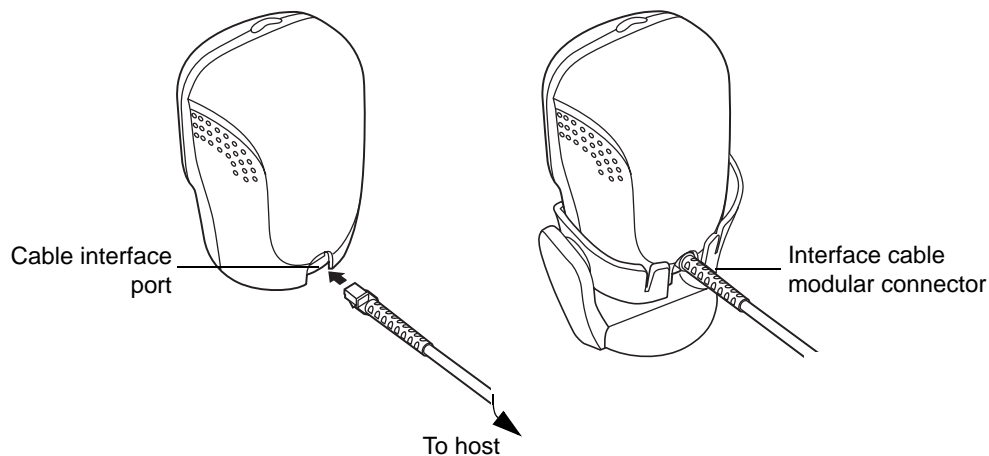

Figure 1-2 *Installing the Interface Cable*
2. Plug the interface cable modular connector into the interface cable port on the rear of the Symbol LS9208 (see Figure 1-2).